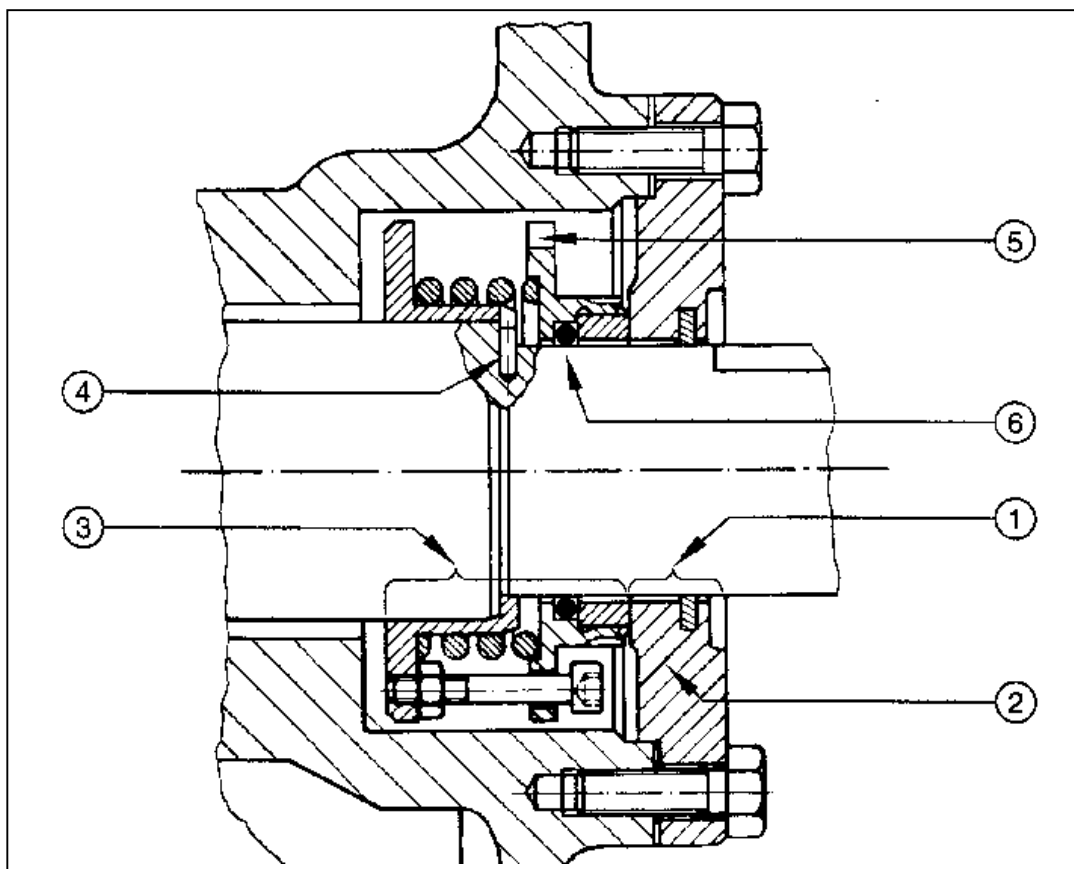

Fig 1
This series of open reciprocating compressors is fitted with a high quality shaft seal. This consists of a rotating and a stationary unit (see fig. 1).
- Loosen the fixings of the shaft seal cover ((2) in Fig 1) evenly (pay attention to the spring tension of the shaft seal).
- Release the cover with light hammer taps if necessary and take off the stationary unit (1). Remove gasket remains.
- Carefully slide the rotating unit (3) from the shaft, which is secured against turning by a drive pin (4). If required the hooks can be located in the slot (5) to assist.